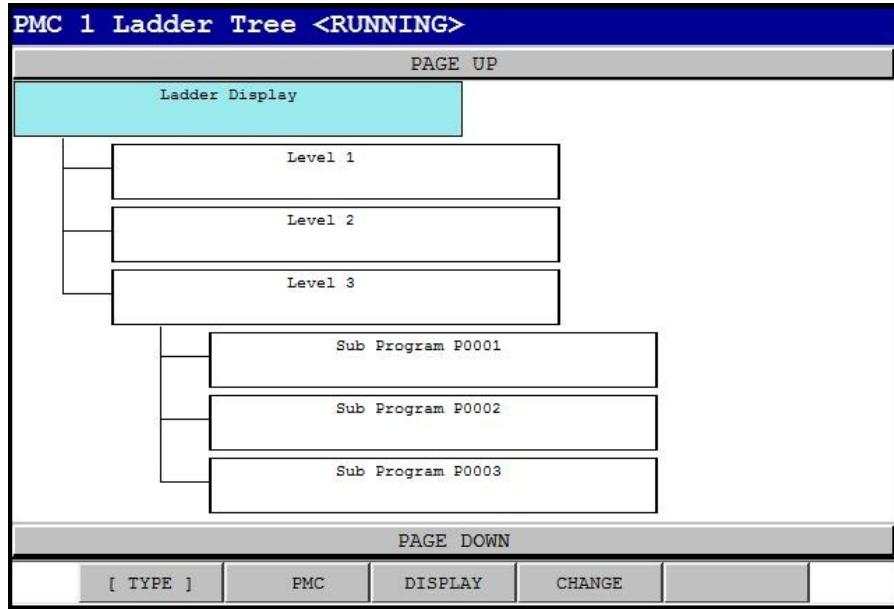

Fig. 6.4 (a) PMC ladder tree view
- 4 Select PMC Display, and a screen such as that shown in Fig. 6.4 (a) appears.
- 5 Use the PMC key to select the PMC path and a screen such as that shown in Fig. 6.4 (a) appears for the specific PMC path.